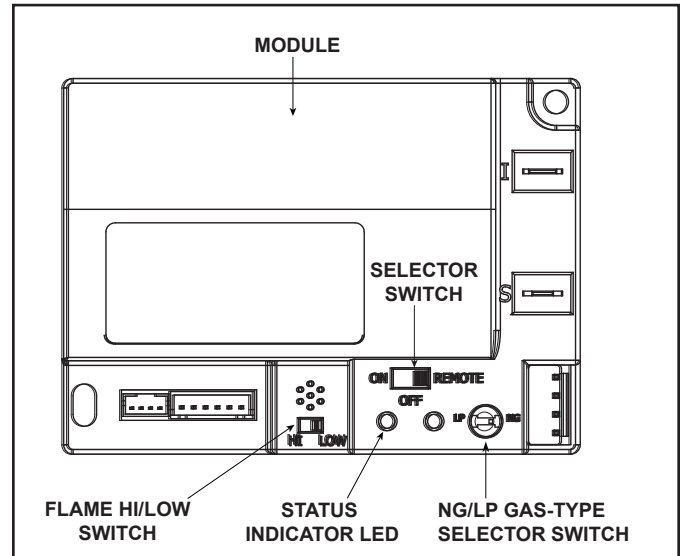

Figure 3.4 Control Module
- See Figure 3.4.
1. The control module has an ON/OFF/REMOTE selector switch that must be set. See Figure 3.4.
2. If using a wired wall switch with the module in REMOTE mode, the flame output can be adjusted with the HI/LO selector switch on the module. See Figure 3.4. Note that the flame HI/LO selector switch will become inactive once the remote control (RC200) is programmed to the control module. Note that the control module will always ignite the fireplace on HI and remain so for the initial 10 seconds of operation. If the HI/LO is switched to the LO position, the flame output will automatically drop to the lowest setting after the flame has been established for 10 sec. After this 10 second period, the flame can be adjusted from HI to LO with the switch.
- Locate the module selector switch. (See Figure 3.4).
- Wait five (5) minutes to allow possible accumulated gas to clear.